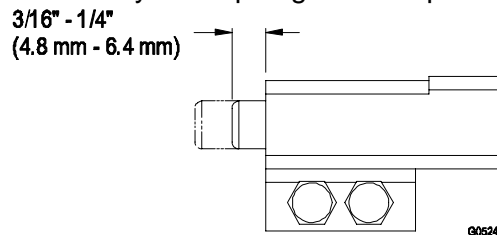

FIGURE 9
- a) Adjust all safety switches so plunger extends 3/16\"-1/4\" (4.8 mm-6.4 mm) from switch body when plunger is compressed (See Figure 9).